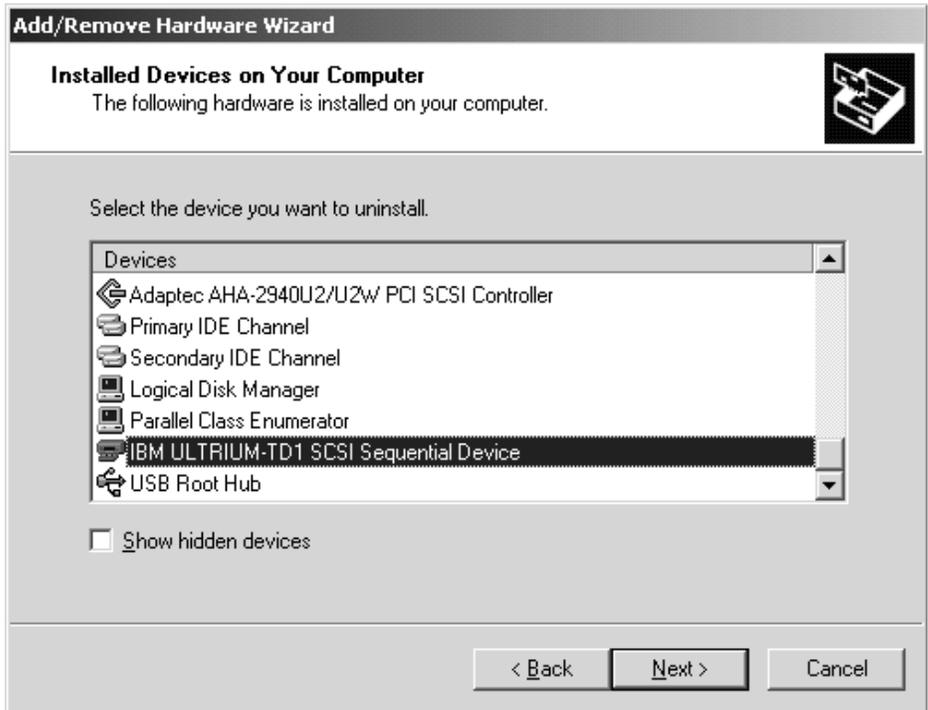

Figure 40. Add/Remove Menu
5. A window display list of installed devices opens. Select the correct device, then click **Next**. See Figure 40.